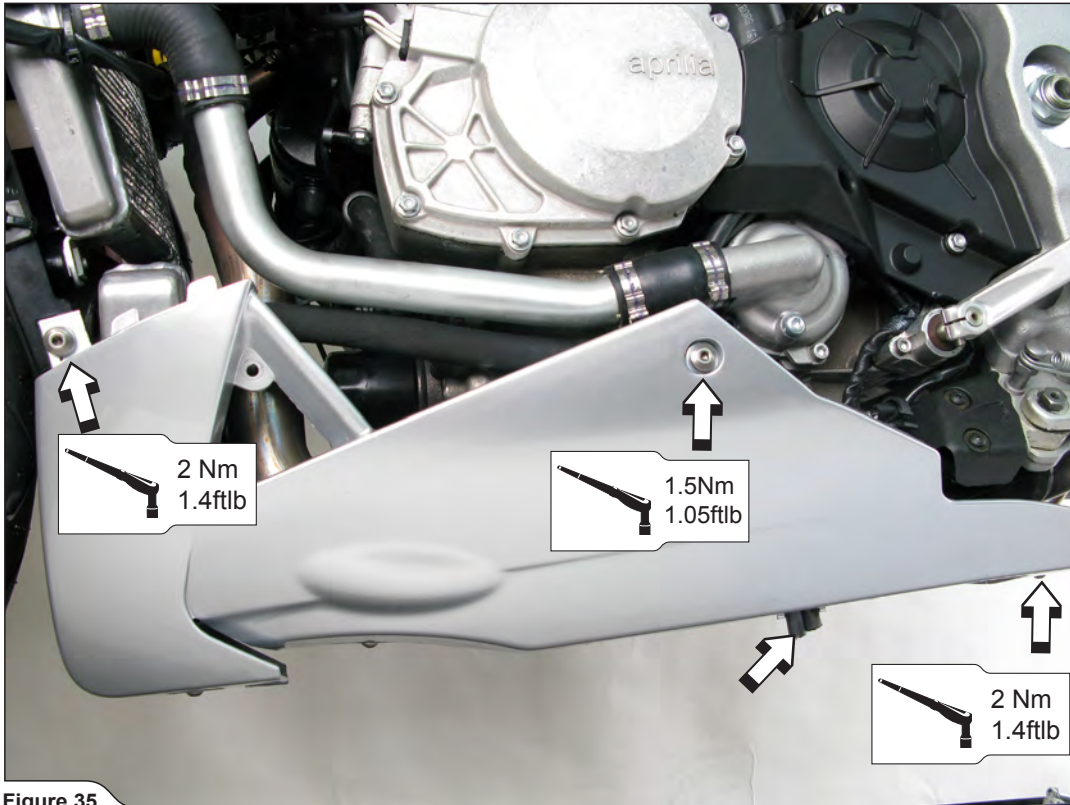

Figure 35
14. Attach the cowlings in the reverse order from the order in which they were removed (Figure 35, 36).
! **WARNING:** because of the risk of melting or fire, the drain pipes must be correctly attached to the cowling (Figure 35)! Make sure, that drain pipes doesn't touch the exhaust pipe!